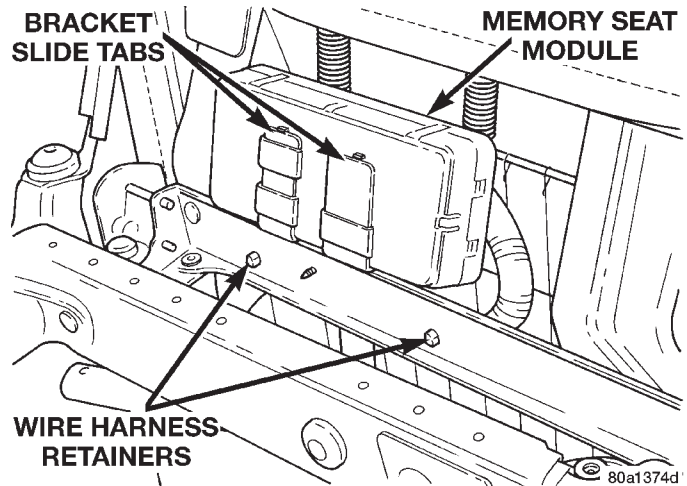

Fig. 8 Memory Seat Module Remove/Install
(2) Unplug the seat belt switch wire harness from the inboard seat belt.
(3) Remove the single screw securing each of the two rear seat track covers to the rear of the seat tracks and remove the covers.
(4) Remove the single screw securing the rear of each of the two seat tracks to the floor pan.
(5) Move the seat to the rearward-most position, if possible.
(6) Remove the single screw securing the front of each of the two seat tracks to the floor pan.
(7) Disconnect and isolate the battery negative cable.
(8) Carefully tilt the seat back towards the outboard side of the vehicle.
(9) Remove the two wire harness retainers out of the seat adjuster top rail (Fig. 8).
(10) Slide the memory seat module off of the mounting bracket slide tabs far enough to unplug the wire harness connectors.
(11) Remove the module from under the seat cushion.
(12) Reverse the removal procedures to install.
(13) Following the installation it will be necessary to initialize the memory seat module. This is done by moving each of the power seat adjuster motors